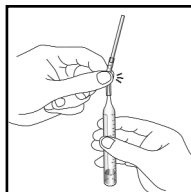

Figure 2
- Snap the tip of the ampoule at the black snap ring (fig. 2).